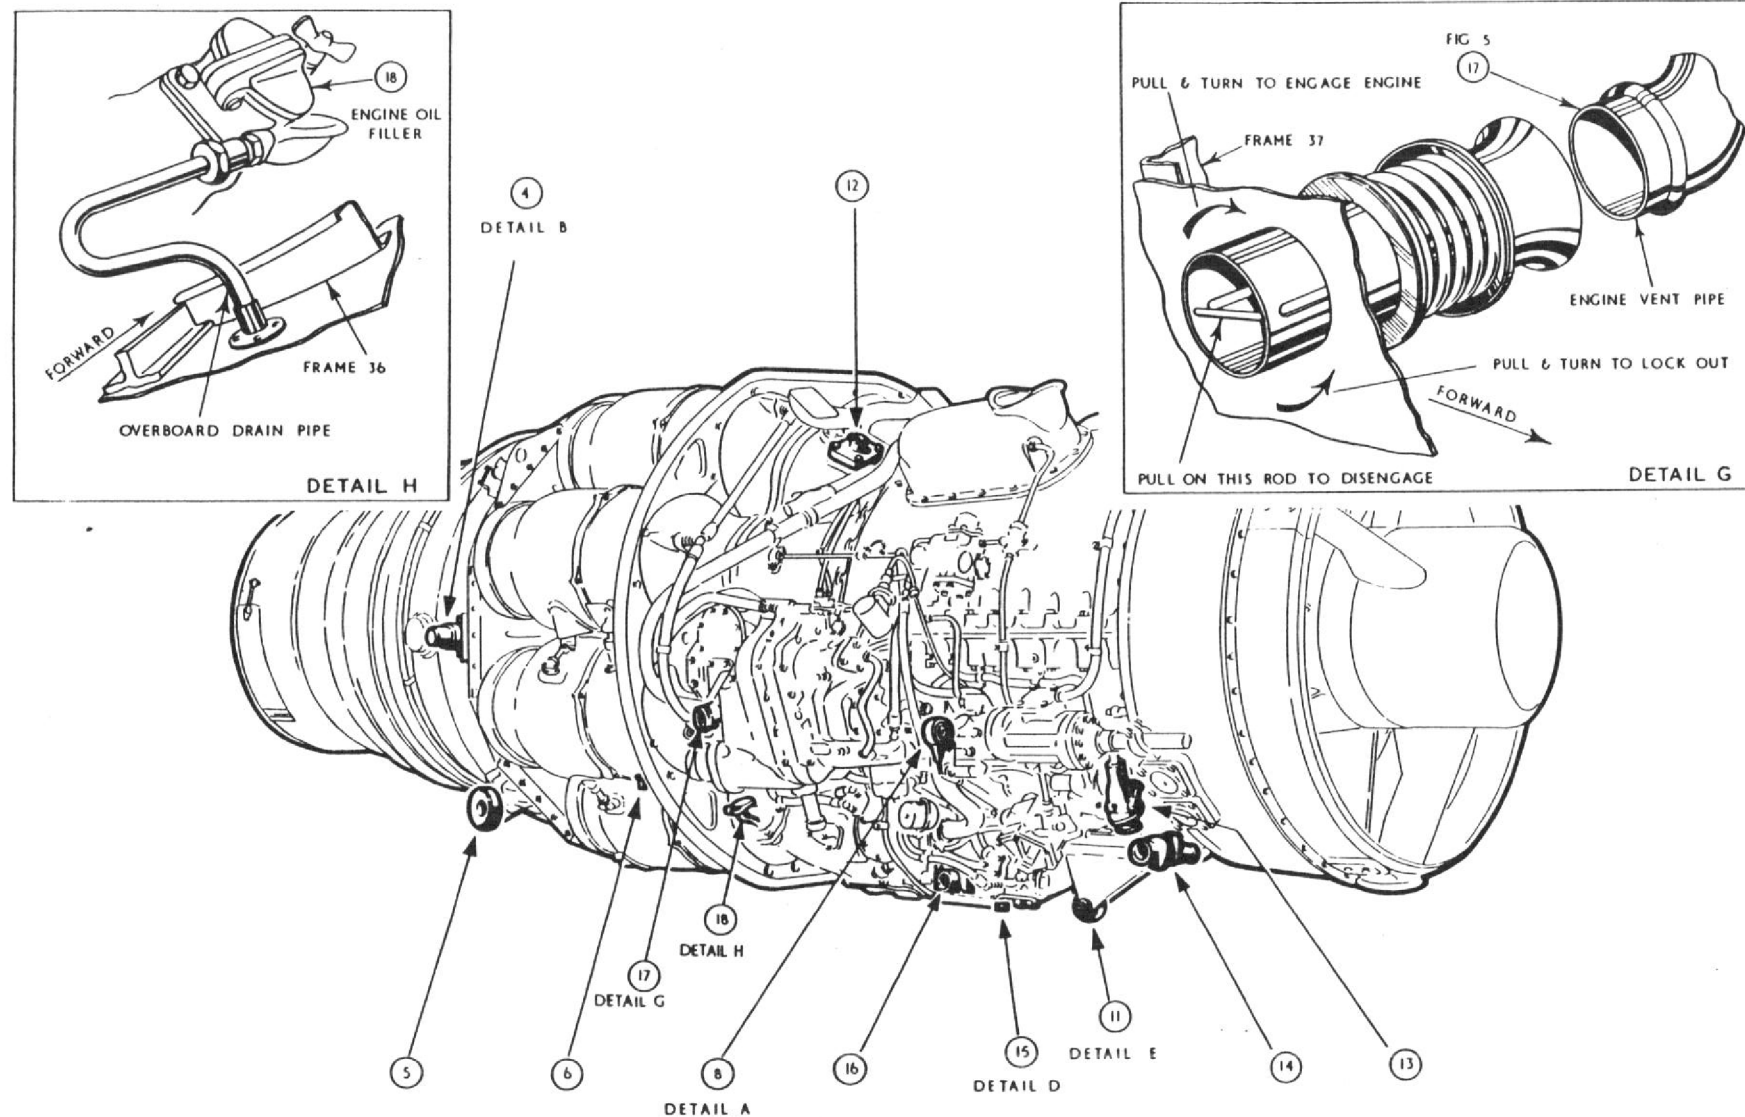
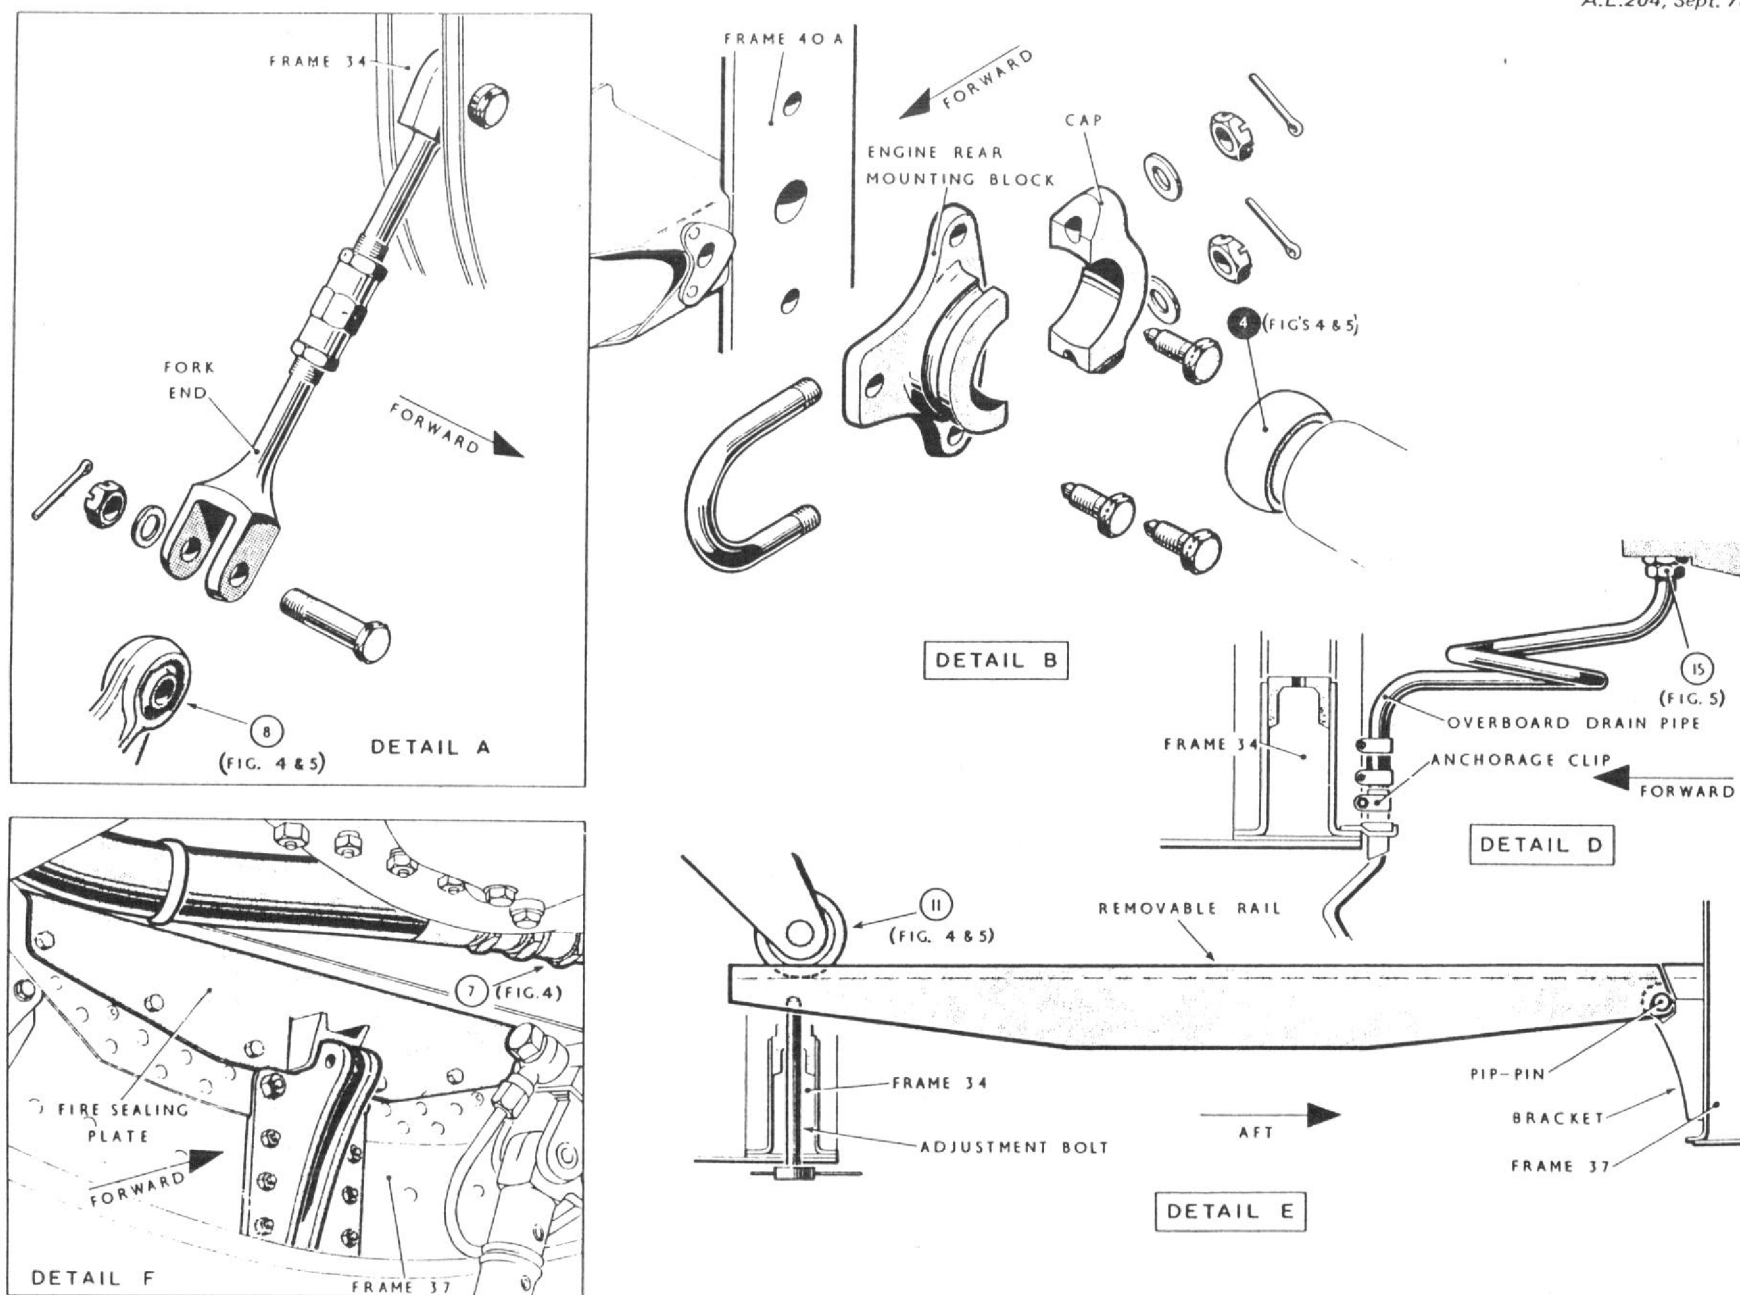

Fig.5 Engine removal (2)
Fig.6 Engine removal (3)
(5) Remove the wheelcase breather (item 17, fig. 5).
(6) The following disconnections are given in sequence under their appropriate access door or panel:—
(b) *Gearbox access door.* Disconnect and stow the cable assemblies C.3 and C.6 (fig. 5 items 13 and 14).
(c) *Engine access door.* Disconnect and remove the drain pipe from the oil filler (item 18, fig. 5). Disconnect the overboard drain pipe (detail D, fig. 5 and 6) from the engine access door landing aft of frame 34 by removing the anchorage clip from the drain connection and from the spill connection (15) at the bottom of the fuel units and fuel pressure warning light switch. Remove the drain pipe from the aircraft. Disconnect the two connecting rods from the high pressure cock and throttle levers (item 9 and 10, fig. 4) and from their respective Teleflex wrapped box units on frame 34. Disconnect the fire extinguisher hose (detail F, fig. 4 and 6) from the rigid metal pipe (item 7, fig. 4) on the engine. Tuck back the hose behind frame 37. Unscrew the six bolts from the fire sealing plate (detail F, fig. 4 and 6) on the forward face of frame 37. Remove the plate from the aircraft. Unscrew the four nuts and disconnect the fuel inlet
pipe from the fuel units (item 16, fig. 5) and from the connection behind the nearest flexible coupling. Remove the pipe and coupling from the aircraft. Place the removable rail (detail E, fig. 6) between frames 34 and 37 and lock in the bracket on the forward face frame 37 by inserting the pip pin. By screwing up the adjustment bolt through the bottom of frame 34 bring the rail into contact with the engine front roller (11) (detail E, fig. 6).
- (f) *Cold air unit access panels.* Disconnect the flexible metallic fuel-tank pressurizing pipe from the engine (item 3, fig. 4) and from the non-return valve aft of frame 36. Remove the pipe from the aircraft. Disconnect the flexible air conditioning pipe from the engine (item 12, fig. 5) and from the connection behind the flexible coupling. Remove the pipe and coupling from the aircraft.
- (7) Having disconnected the above items, align the engine removal trolley with the engine rail lug on the rear face of frame 40A. Screw down the built in jacks at each corner of the trolley and raise it to the required height. Bring the engine rear roller channels of the trolley into alignment with the engine rear rollers (item 5, fig. 4 and 5) by turning the lateral adjustment handles on the cross members above the trolley axles. Lock the trolley to frame 40A by inserting the pip pin in the connecting link of the trolley. Dismantle the engine rear mountings (detail B, fig. 6) by removing the split pins, slotted nuts and washers